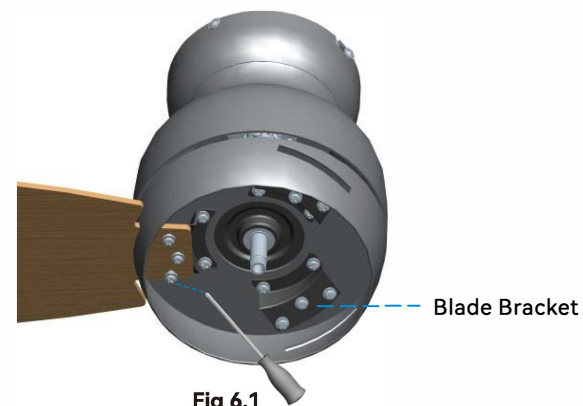

Fig 6.1
6.1 Locate 9 blade attachment screws and washers in the hardware pack. Slide the blade through the lamp cover and align three blade holes with the screw holes of the blade bracket and fasten the blade with the screws and washers as shown in Fig 6.1.